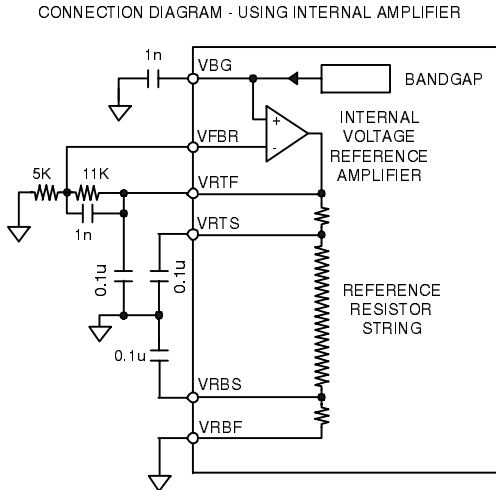
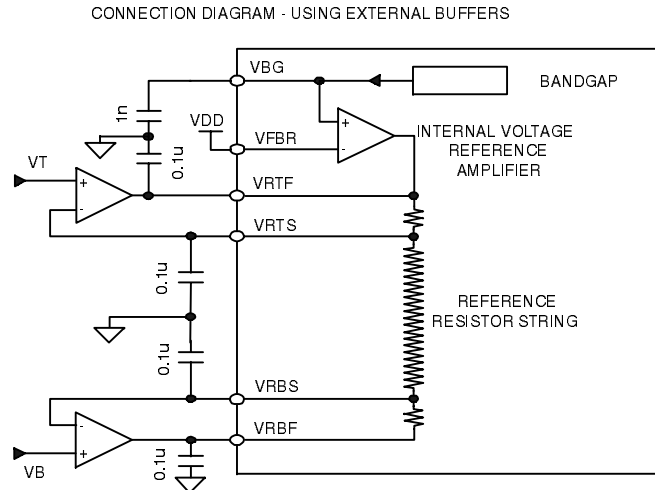

Figure 10. Circuit Diagram with Internal Amplifier
Figure 11. Circuit Diagram with External Amplifier
Proper setting of the voltages VRBF and VRTF is necessary to achieve full 10 bit dynamic range. VRTF can be set using either the internal voltage reference amplifier, or using an external buffer (see Figure 10. and Figure 11.) If using an external buffer, VRTS can be set more precisely by using VRTS as feedback to the external buffer. Likewise, VRBF can be forced with an external buffer, using VRBS as feedback. When not using the internal voltage reference amplifier, it must be disabled by connecting VFBR to V_{DD}. This will not cause a conflict between the internal amplifier and the external buffer - the internal amplifier's output will become high impedance when the voltage on VFBR is higher than on VBG.
The values in Figure 10., for example, would give VRTF = 3.968v = 1.24v x (1 + 11K/5K)
VRTS can be set more precisely by using an external buffer and known reference voltage VT (see Figure 11.)
For minimum use of external components, VRBF can be tied to ground (see Figure 10.) However, if a more precise VRBS voltage is needed, or if the minimum
expected voltage of VIN is not close to ground, then an external buffer and known reference voltage VB can be used (see Figure 11.) VINR can be tied to VRBS, and VRBS set with an external voltage source VB such that VRBS is at the expected minimum voltage of VIN.
- 4) Place 0.1µF power supply filtering caps as close to the power supply pins on the XRD6440 as possible. The connection from the caps to the ground plane should also be as short as possible. The same holds true for the caps shown in Figure 10. and Figure 11.